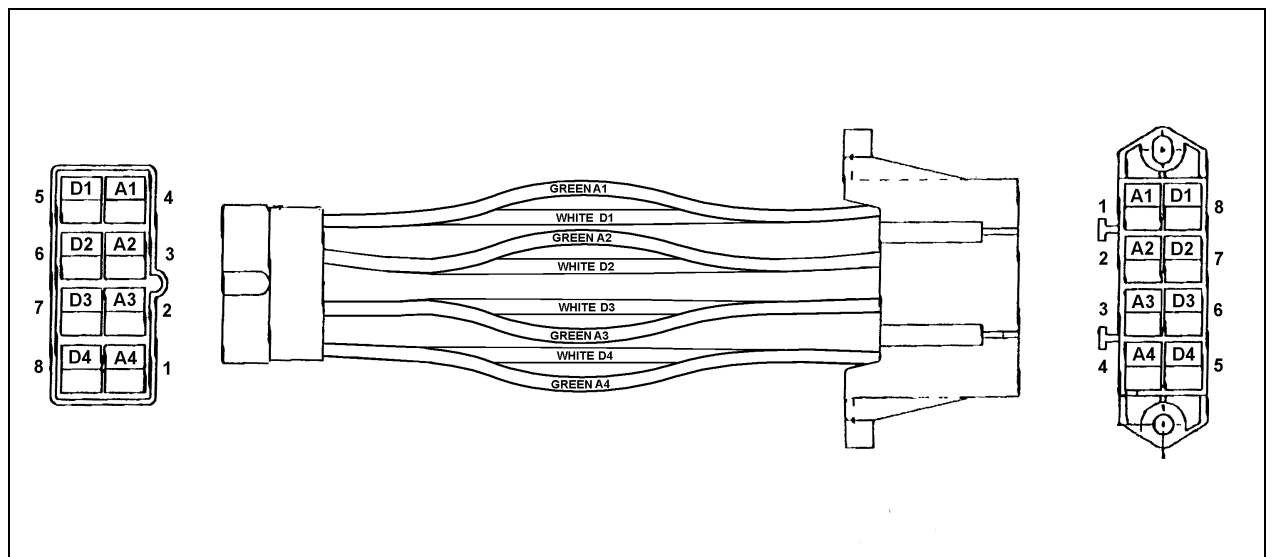

FIGURE 2: FUSE BLOCK WIRING
2. Ensure that fuse block wiring is in accordance with figure 2, if not you can order fuse block (Prévost # 562621).